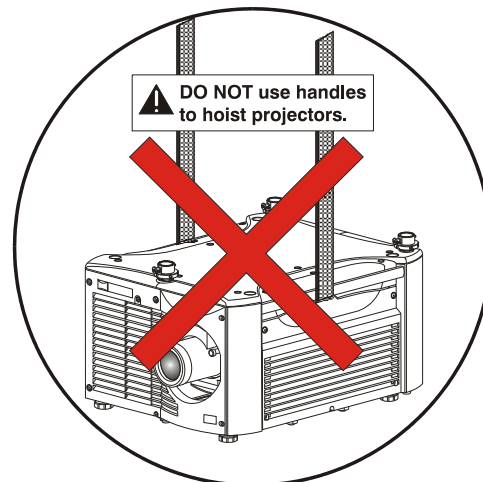

Figure 2.7. NEVER Use Handles for Hoisting or as Safety Points
- Never hoist a projector by its feet, handles, or any other component (Figure 2.7).